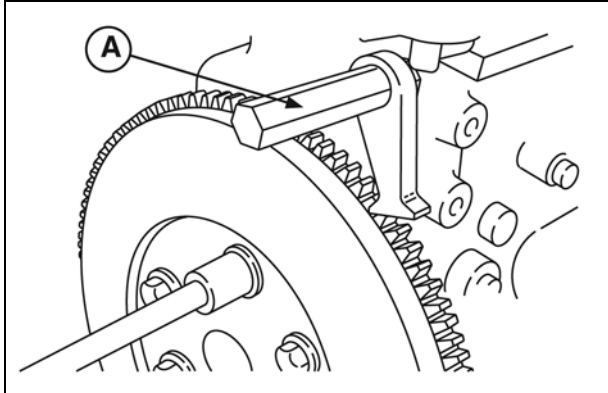

Figure 9
4. Install flywheel and flywheel holder (**A**, Figure 9).